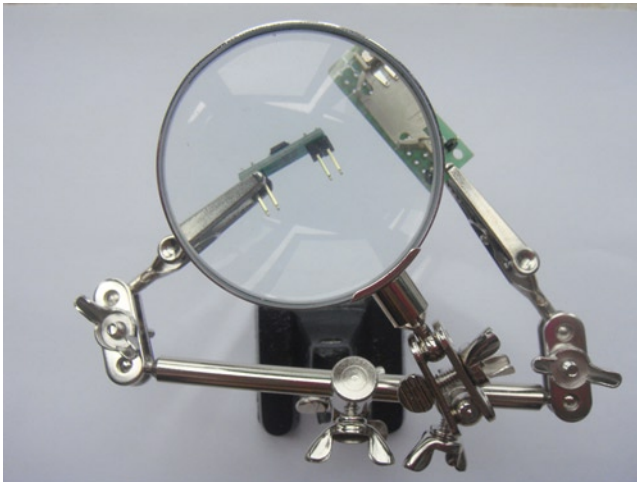

Figure 8-3. *Handy hands: a very handy addition*
- A set of handy hands, as seen in Figure 8-3